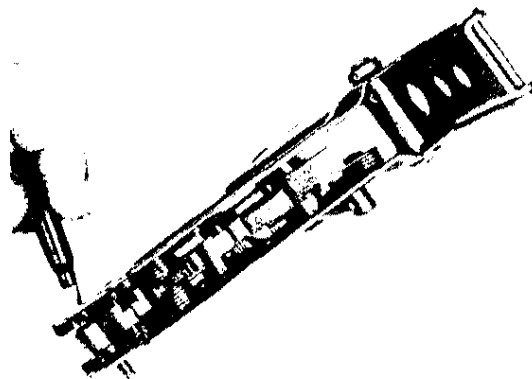
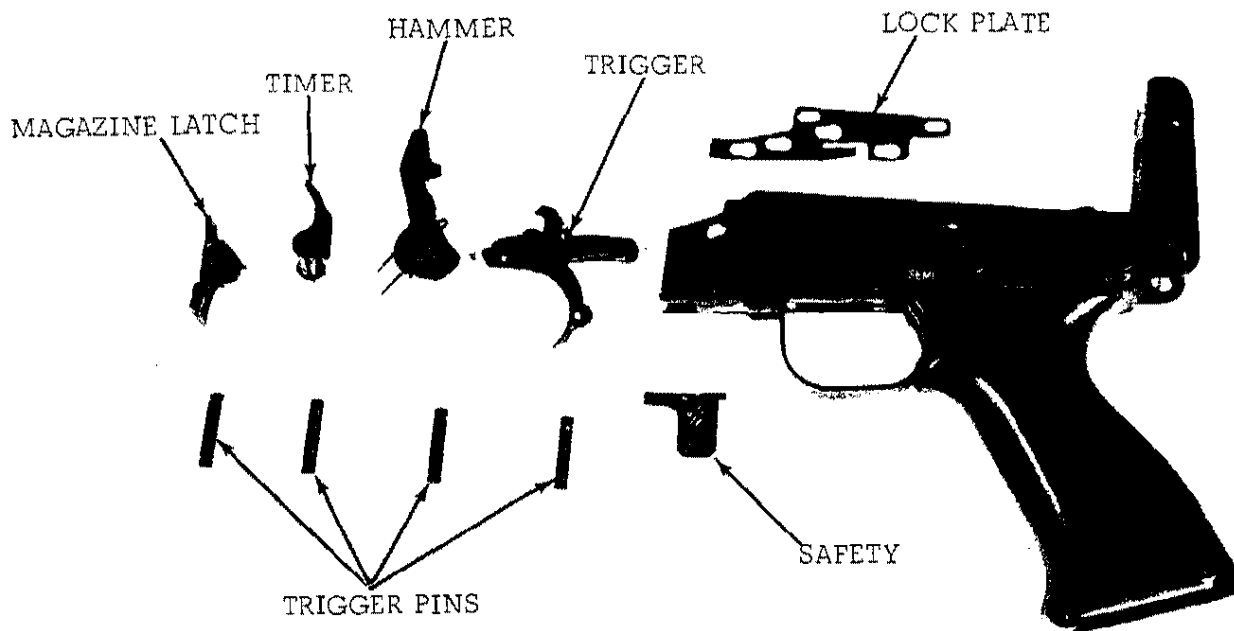

FIGURE 30. REMOVING THE MAGAZINE
FIGURE 31. TRIGGER HOUSING GROUP - DISASSEMBLED
(3) With the tip of a cartridge remove the magazine latch pin and remove the magazine latch. (Figure 30) Remove the timer pin and remove the timer. Remove the hammer pin and remove the hammer. Remove the trigger assembly pin. (Figure 31)
- (1) Place the lock plate in the left side of the trigger housing group (Figure 31) insuring that the lock plate is held in position by the two lock plate guide pins. The lock plate must remain forward during assembly of the trigger housing group.